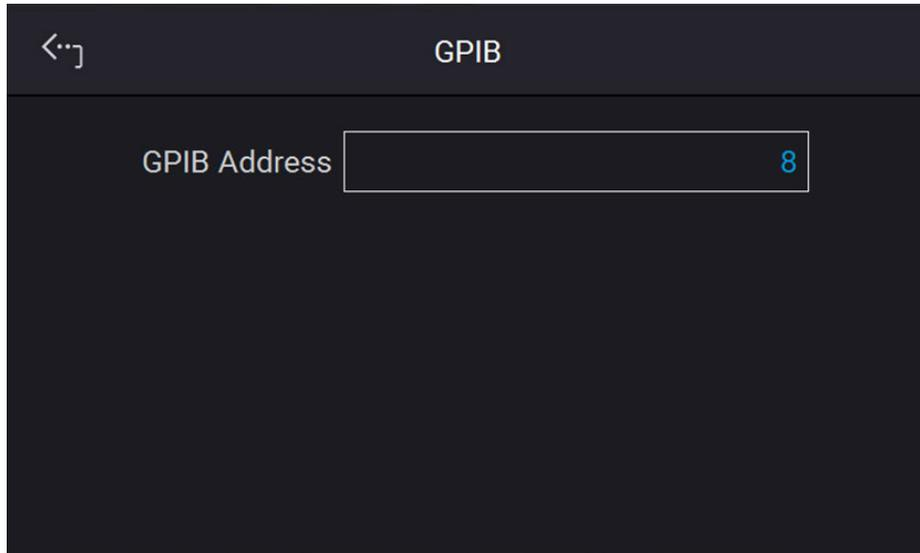

Figure 3-35
1. On the “Interface” page, select GPIB to enter the power supplies GPIB Address as shown in Figure 3-35.